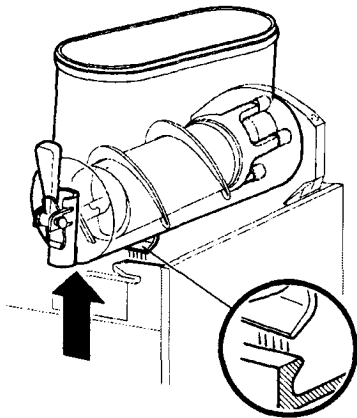
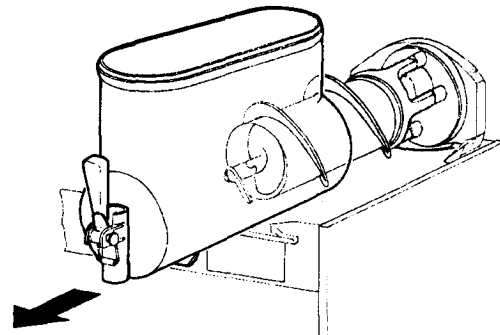

figure 7
figure 8
- 3 - Remove the bowl by lifting its faucet side up and off the fastening hooks (see figure 7) and slide it out (see figure 8).